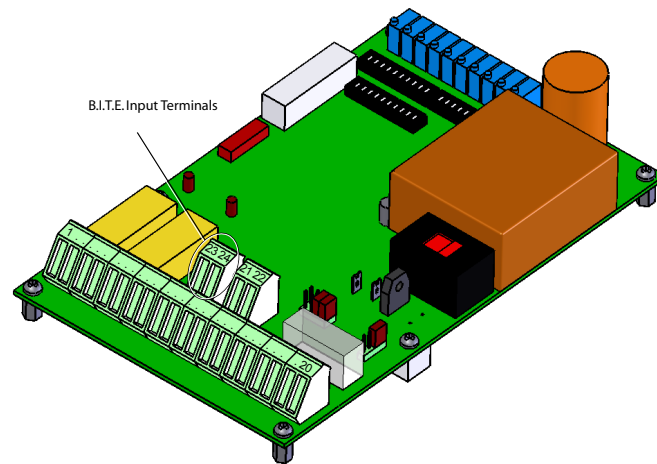

Fig. 4-7 B.I.T.E. control input terminals
- connect the B.I.T.E. control input (terminal 23) to the ground (terminal 24), see *figure 4-7*.